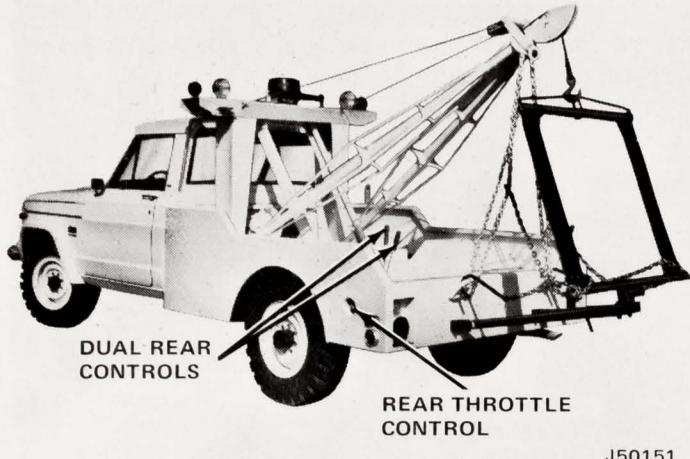

Fig. 10-8 Wrecker Kit Installed
(1) Position rear throttle control assembly in quarter panel (fig. 10-8). Install washer and nut on back of assembly.